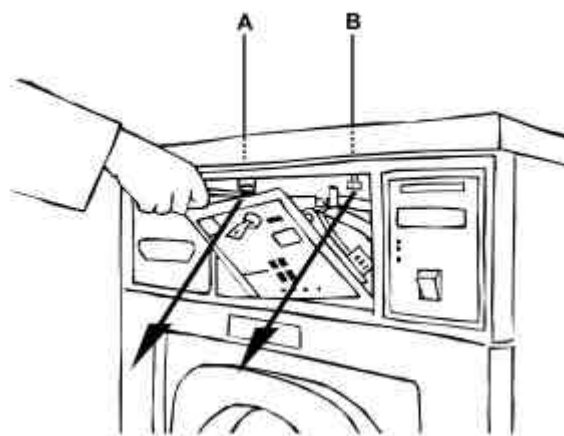

fig. 1
3. Carefully remove screws A and B with a 10-mm wrench, trying not to damage the microprocessor board (**fig. 1**)
26. Carefully fit the clamping screws (**A and B fig. 1**) of the top cover. Make sure that the top cover has been fitted correctly and that it is centred.